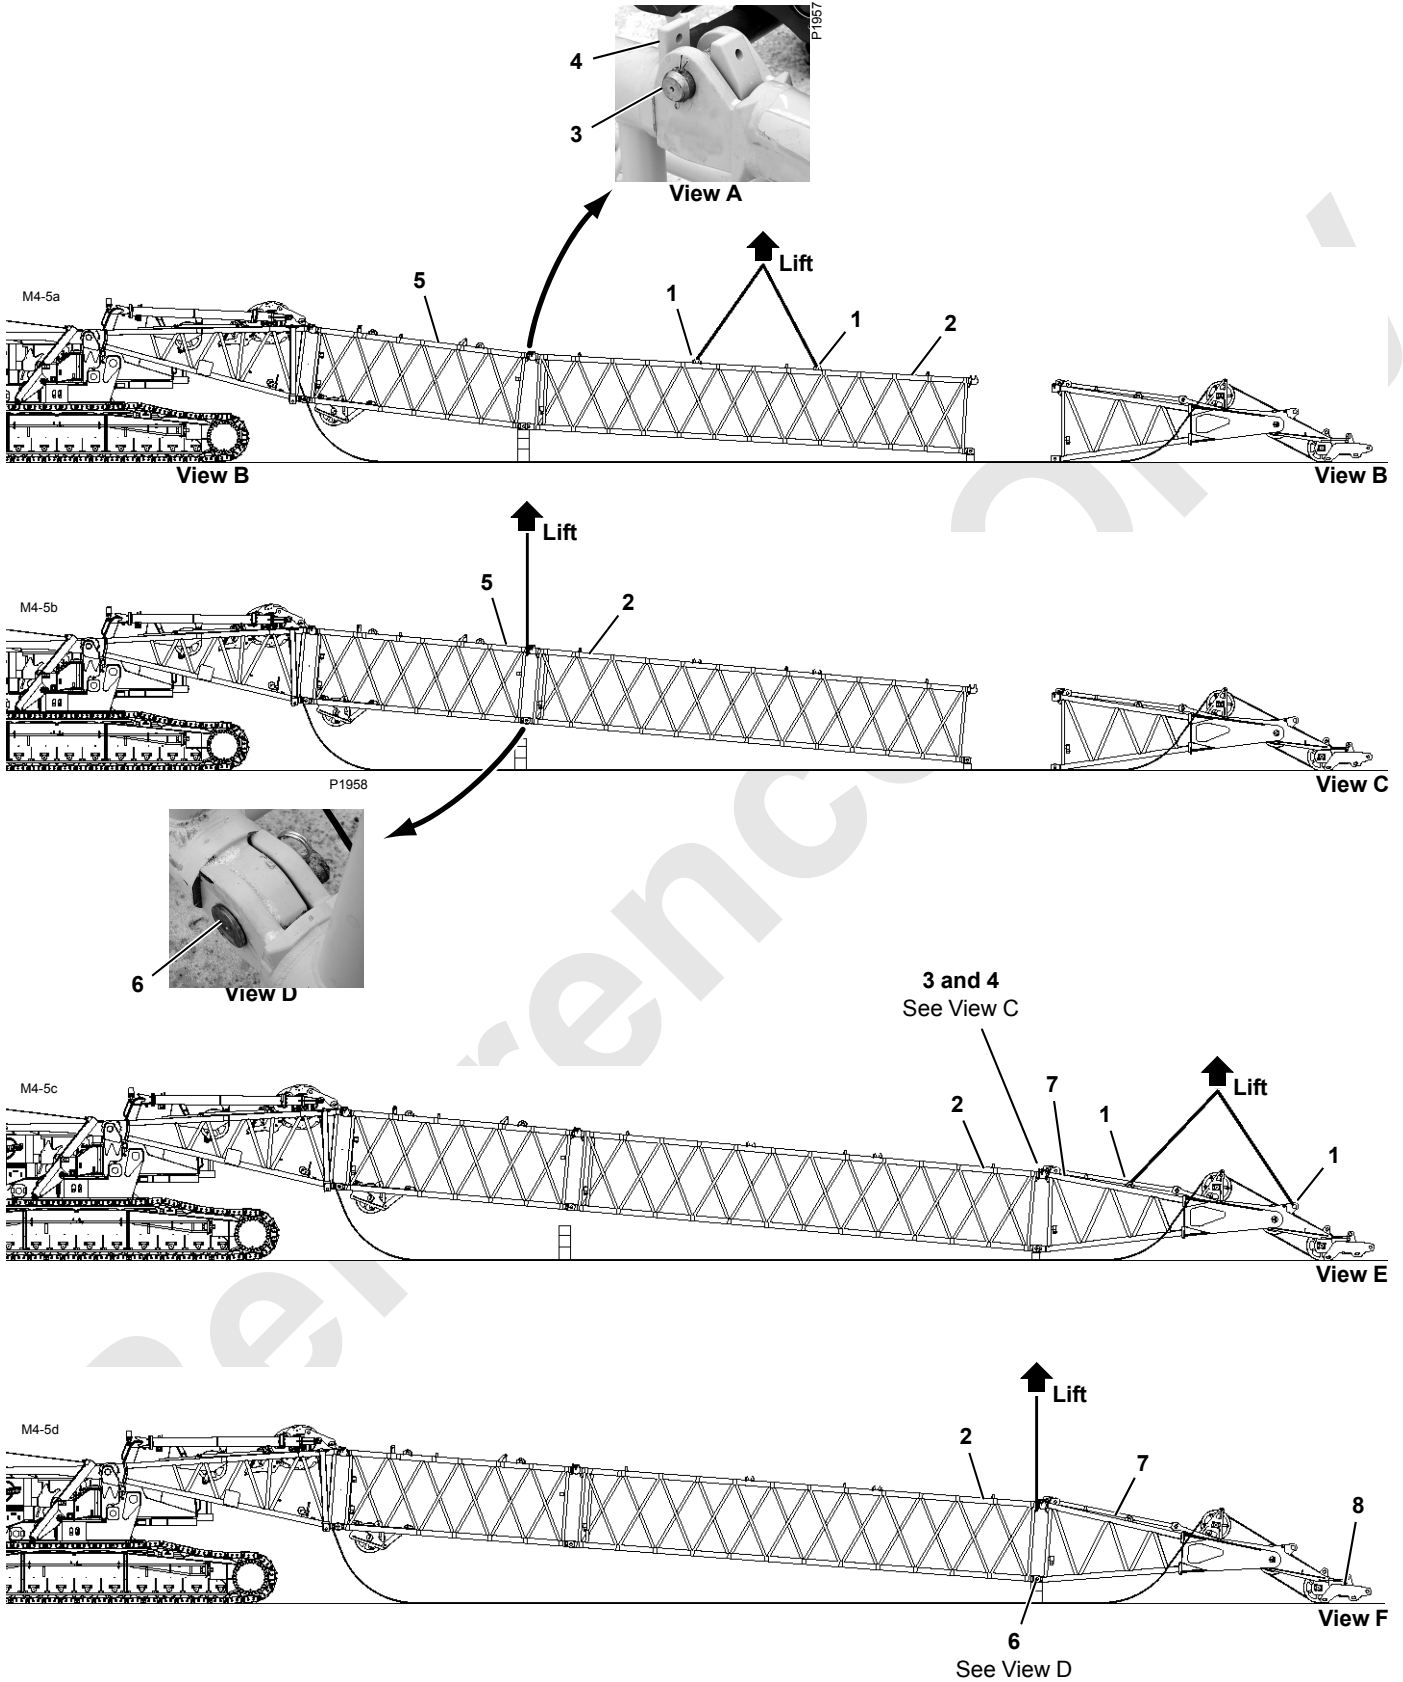

FIGURE 4-6
See Figure 4-6 for the following procedure.
**Legend for Figure 4-6**